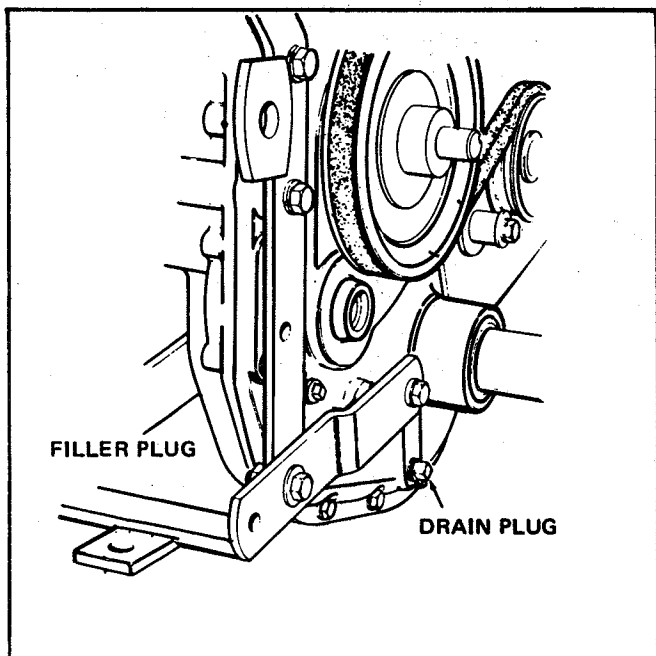

Figure 7
- (1) Rear Axle Tube - Figure 7
The transmission has a capacity of 1-1/2 qt. of SAE 90 oil and is filled at the factory. It will not normally require replenishment, but occasionally check drain plug for tightness and axle tube oil seals for leakage. Maintain oil level at lower edge of filler plug hole. Remove vent plug from top of transmission and allow oil to settle to normal level before checking. See Figure 7.